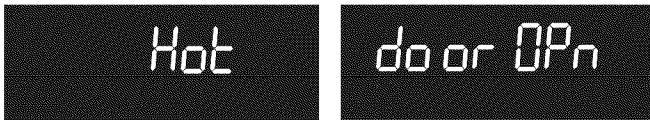

Figure 50: Hot message showing oven door locked (L) door Opn message will flash while door is opening
1. Cln message will turn off and Hot will appear in display window (Figure 50).
2. If Self Clean has heated the oven to a high temperature, allow enough time for the oven to cool and the door Opn message to appear (Figure 50). When this message turns off the oven door may be opened.